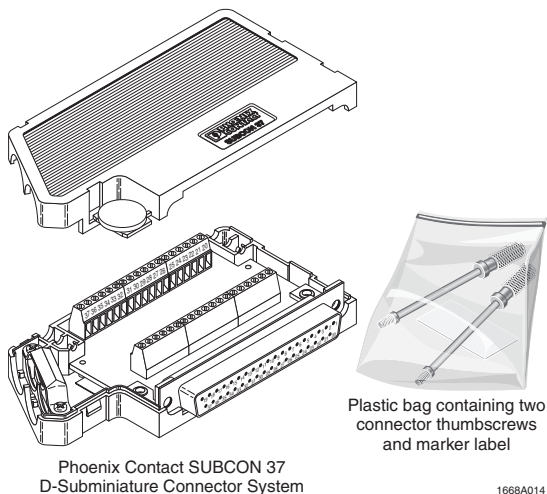
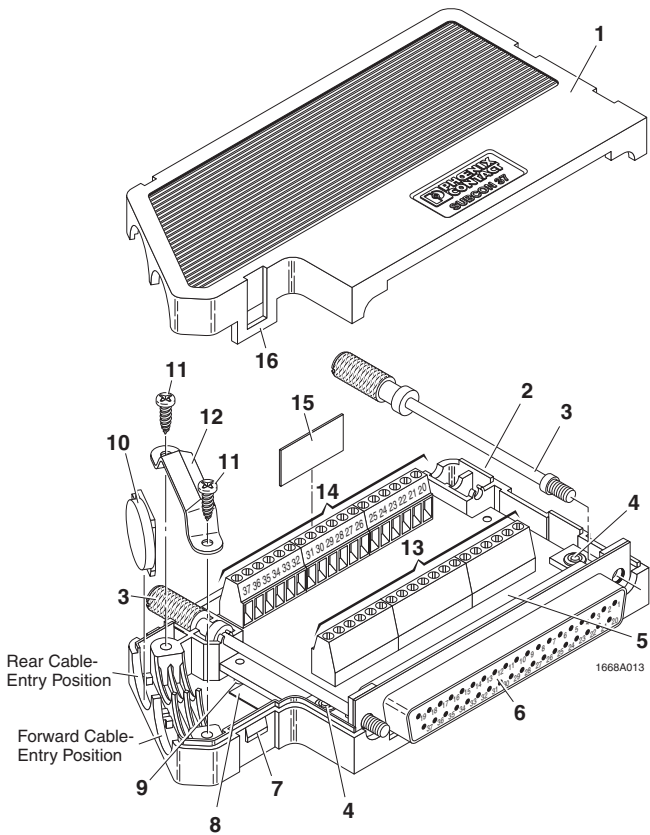
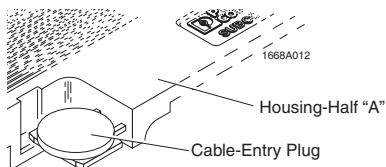

Figure 1. Components of the SUBCON 37 D-Subminiature Connector
Figure 2. Exploded View of the SUBCON 37 D-Subminiature Connector
Figure 3. Cable-Entry Plug Shown Attached to Housing
This SUBCON 37 D-sub connector was inspected prior to shipment. After connector is unpacked, inspect all items for possible damage that may have occurred during shipment. Contents applicable to the SUBCON 37 are shown in Figure 1.
Components that make up a typical SUBCON 37 connector are identified in Figure 2. Table 1 provides a description of the items shown in Figure 1. Table 2 at the back of these instructions provides ordering information for the SUBCON 37 connector and Table 3 provides technical data for the SUBCON 37 connector.
Table 1. Key to Figure 2
The SUBCON 37 connector comes from the factory with a cable-entry plug, shown in Figure 3, that is lightly attached to housing half "A" (see Figure 1). To prevent the plug from breaking off and being lost, we recommend that you remove it and store it safely away until needed.
- Obtain the blank connector identification label from the plastic bag that came with the SUBCON 37 (see Figure 1).